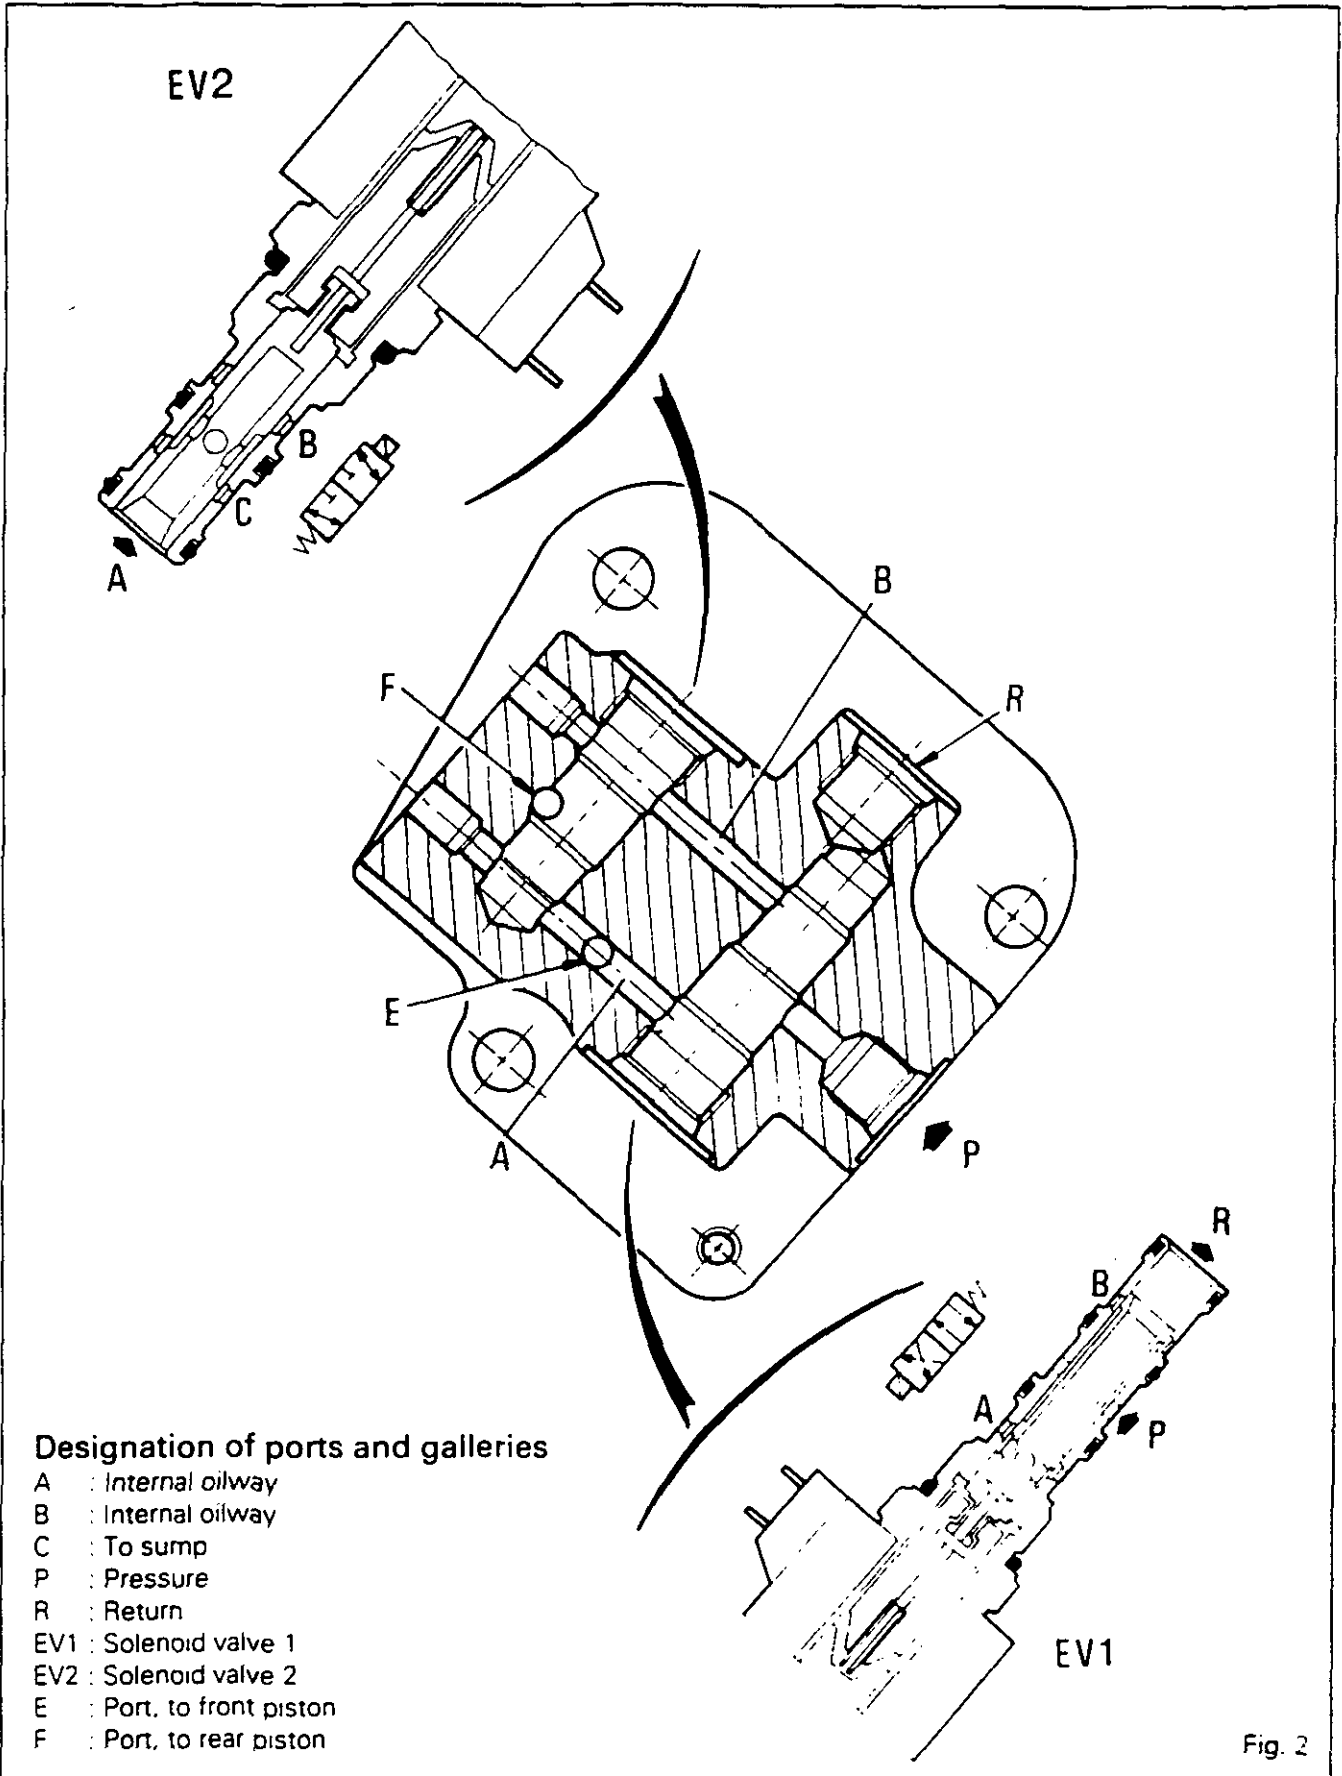

Fig. 2
- **The distribution unit (1)** mounted on the right side of the gearbox, it has two internal oilways A and B (Fig. 2) allowing the oil to circulate from one solenoid valve to the other.
- **The solenoid valves (2)** are screwed into the distribution unit, they include:
- **The accumulator (3)** mounted on the distribution unit, on the inlet line, enhances the oil flow to fill the Dynashift unit piston chambers when necessary. Thus piston reaction is maintained.
Refer to chapter 5 R02 for the theoretical operation and the mechanical explanation of the ratios (refer also to page 8K01-3 - Fig. 2).